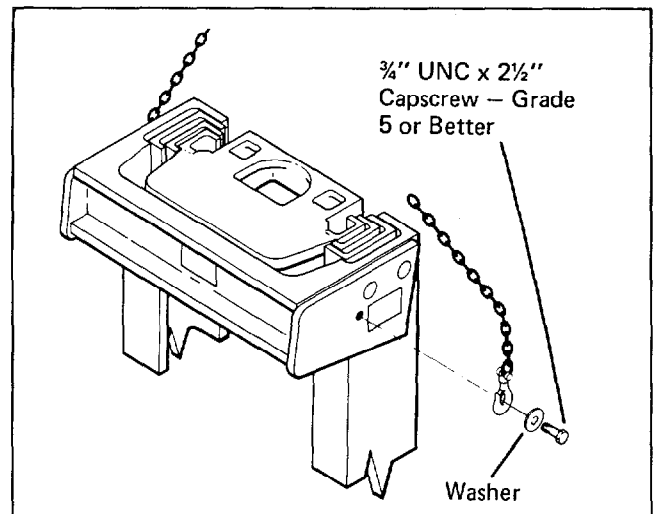

Figure 4-43 Lifting Procedure
11. Thread a 3/4" UNC x 2-1/2" capscrew (grade 5 or better) with a large flatwasher into the hole on each side of the mast as shown in figure 4-43.